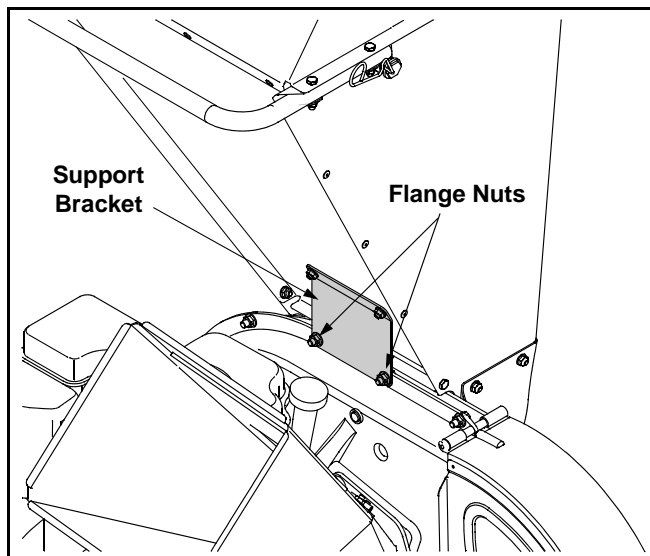

Figure 10
- Remove the two flange nuts (and hex bolts) which secure the hopper support bracket to the impeller housing. Retain the hardware. See Figure 10.